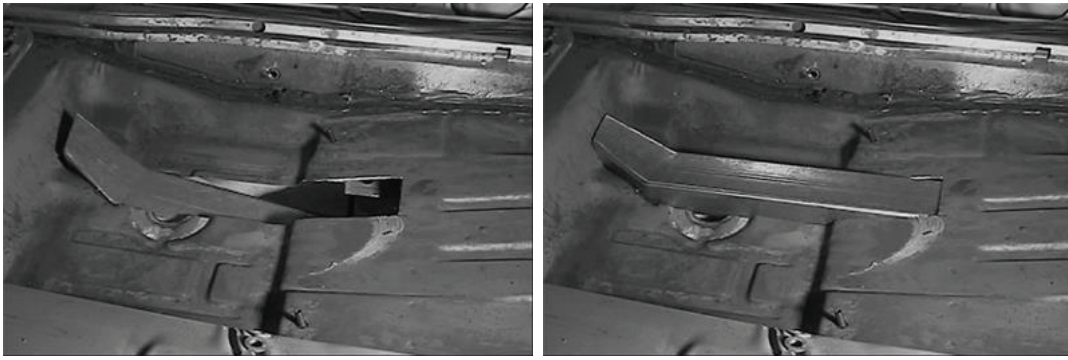

Figure 8
12. Starting with the rear of the appropriate subframe connector (slotted end), insert the open slotted end into the rear floor pan from the bottom (Figure 8 on the next page). The lower portion of the connector will butt against the front of the rear frame rail.